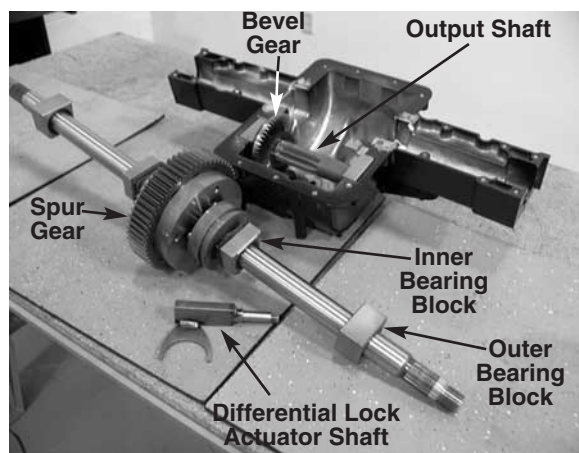

FIGURE 12.
30. Inspect the outer and inner bearing block assemblies for any damage. See figure 12.
NOTE: Not all models are equipped with the differential lock out feature. See figure 12.